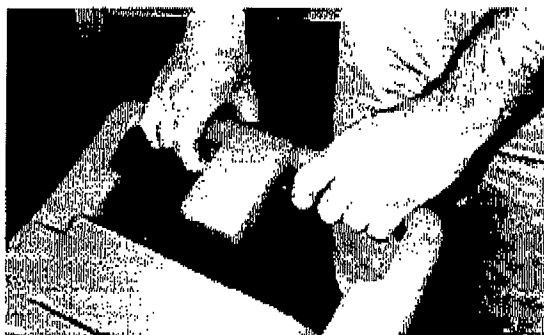

FIG. 14
7. Pull the triggers to engage the pad driver/brush. **Make sure the front wheel is in the UP position** (Figure 14).